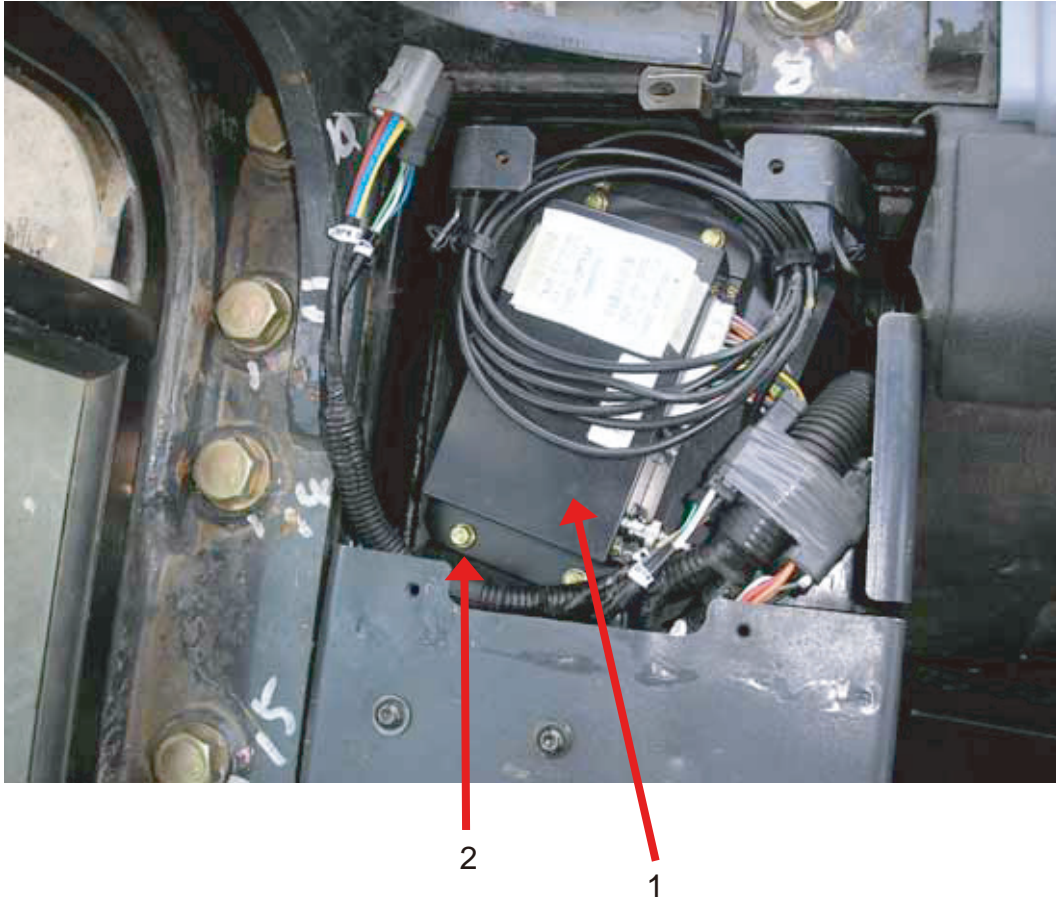

Fig. 1 Installation of modem
(1) Installation of modem
- Fix modem (1) to the right side of the floor with bolts (2) as shown in Fig. 1.